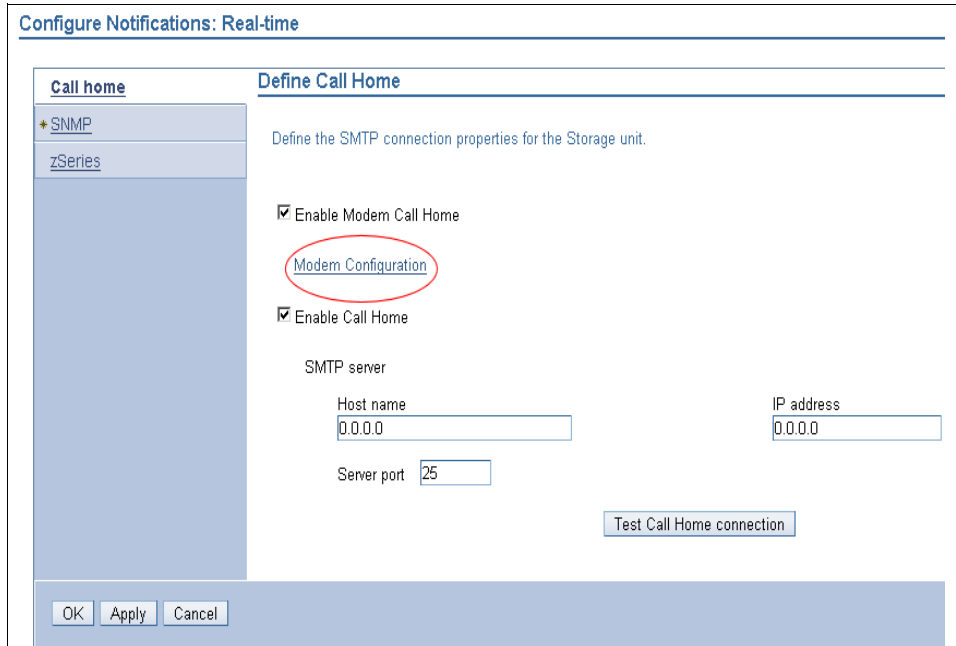

Figure 22-9 Configuring Call Home and enabling it
7. Check the **Enable Call Home** box and then in the Host name and IP address fields, enter the host name and IP address of your SMTP server, as shown in Figure 22-9.
As you can see in Figure 22-9, it is now possible to enable Call Home over modem. From the same Define Call Home window, you can configure and test the call home over modem. If the modem was installed, configured and successfully tested before (i.e. for remote support) then there are no more configuration steps for modem call home required. If the modem needs to be configured the link “Modem configuration” will take you to the same test and configuration window as shown in Figure 22-7 on page 436.